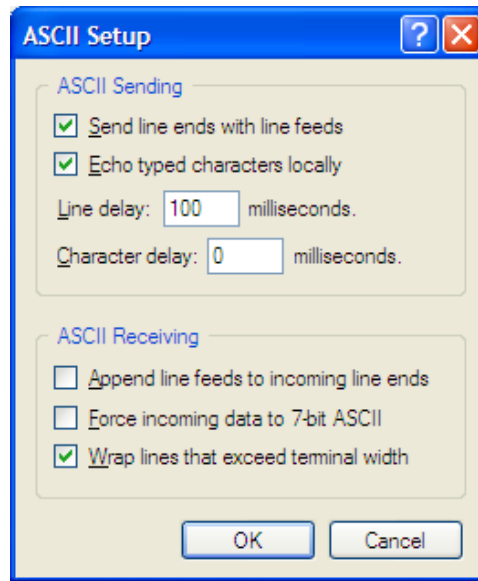

Figure C-5. ASCII Setup Dialog Box
- b. Click the ASCII Setup button. Make the following selections using Figure C-5 as a guide: